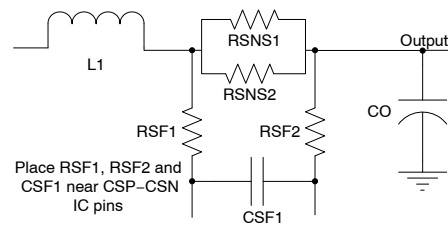

Figure 24. Current Sense Resistor π -Filter
- An optional R–C–R π -filter on the IC’s CSP/CSN pins (Figure 24) is sometimes used to filter differential and common mode noise